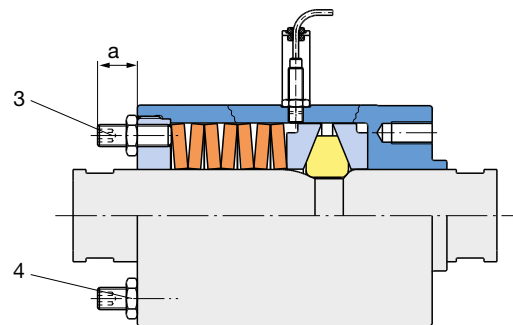

Fig. 4
Adjusting Sizes 5 – 8 (Fig. 4):
There are 4 or 6 set screws (3) in the adjusting nut (2), which can be set to dimension "a". Countering the set screws (3) with hexagon nuts (4) prevents inadvertent changes to the adjustment. The Adjustment Diagram shows the relationship between Dimension "a" (Fig. 4) and the release force.